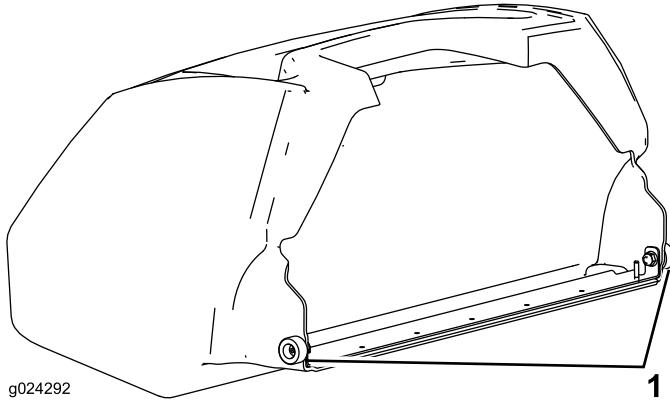

**Figure 9**
1. Grasp the basket by the handle (Figure 9).
2. Guide the basket lip between the cutting unit side plates and over the front roller (Figure 9).
3. Install the basket hooks over the frame loop (Figure 9).